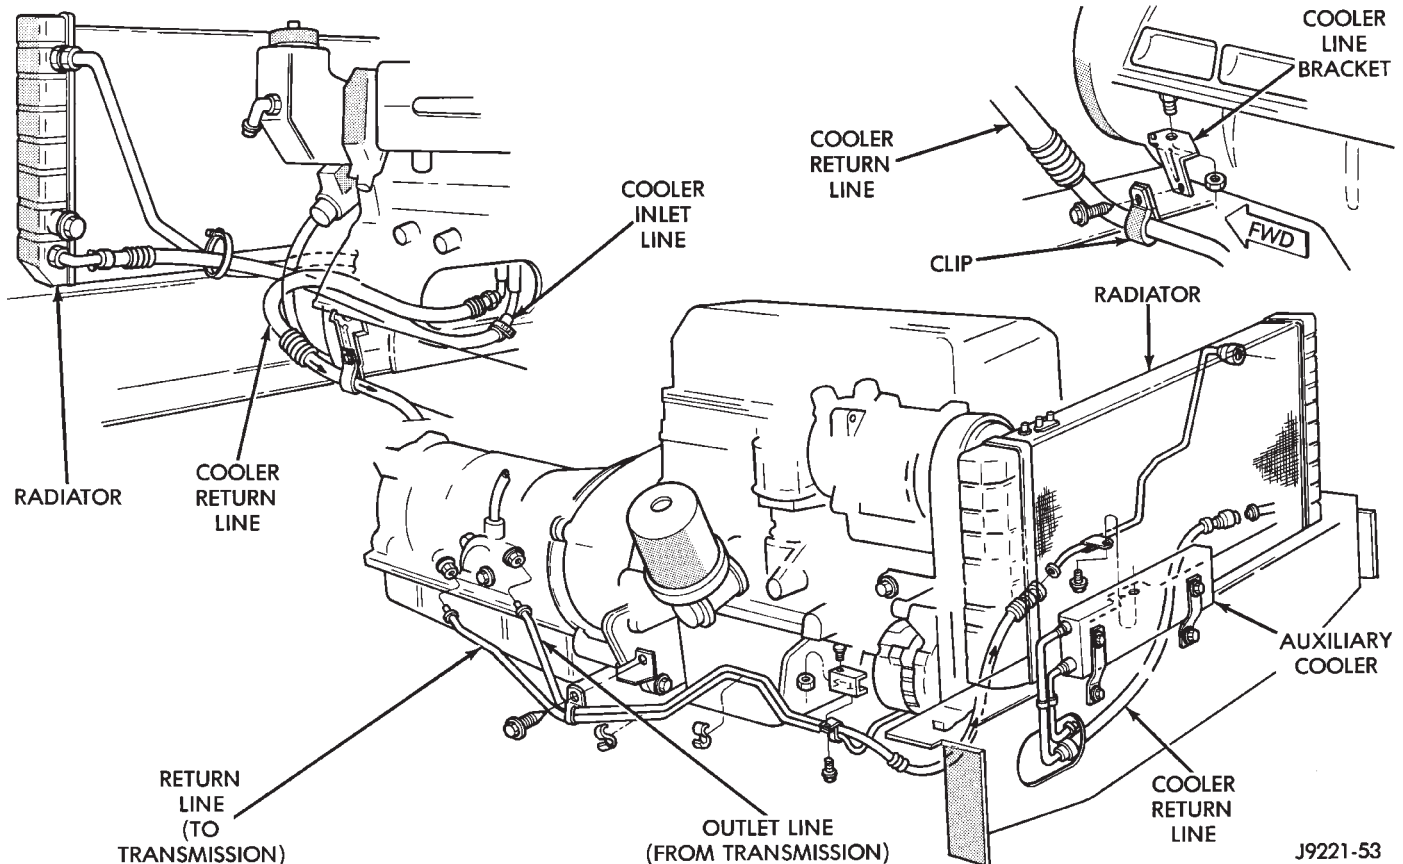

Fig. 48 Auxiliary Cooler Mounting (Left Hand Drive)
The auxiliary cooler is mounted in front of the radiator at the driver side of the vehicle (Fig. 48). The cooler can be flushed when necessary, while mounted
(1) Disconnect cooler lines at transmission and at auxiliary cooler (Figs. 48 and 49).
(2) Position drain pan under cooler line to catch material flushed through coolers and lines.
(3) Reverse flush each cooler using hand operated suction gun filled with mineral spirits. Insert gun nozzle (or hose) into cooler inlet (return) line. Then force mineral spirits through into line and through cooler.
(4) Continue reverse flushing until fluid exiting inlet (pressure) line is clear and free of debris/residue.
(5) Replace radiator if fluid cannot be pumped through main cooler. Replace auxiliary cooler if leaks are evident, or if fluid cannot be pumped through it.
(6) Clear flushing materials from coolers and lines with short pulses of compressed air. Insert air gun nozzle into cooler inlet (return) line and continue short pulses of air until all fluid is cleared from cooler and lines.
(7) Pump one quart of fresh automatic transmission fluid through cooler and lines before reconnecting cooler lines.